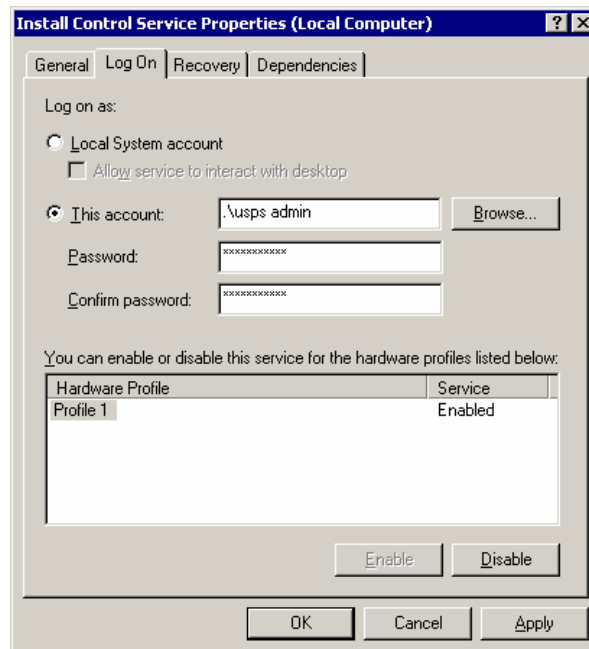

Figure 1-237. Install Control Service Properties Logon tab
3. Click on the **Log On** tab and enable the radio button next to **This account** (Figure 1-237).